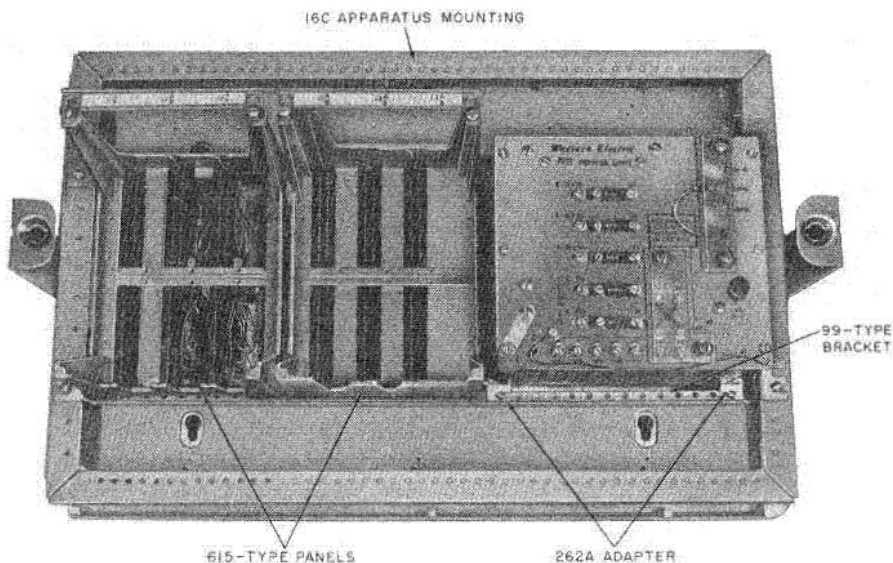

Fig. 45—16C Apparatus Mounting With 615A Panels Mounted on 99-Type Brackets and 20-Type Power Unit Mounted on 262A Adapter
10.01 The 262A adapter is used to mount a 20-type power unit in a 16C apparatus mounting with two 615A panels using 99-type brackets (Fig. 45). All necessary screws and